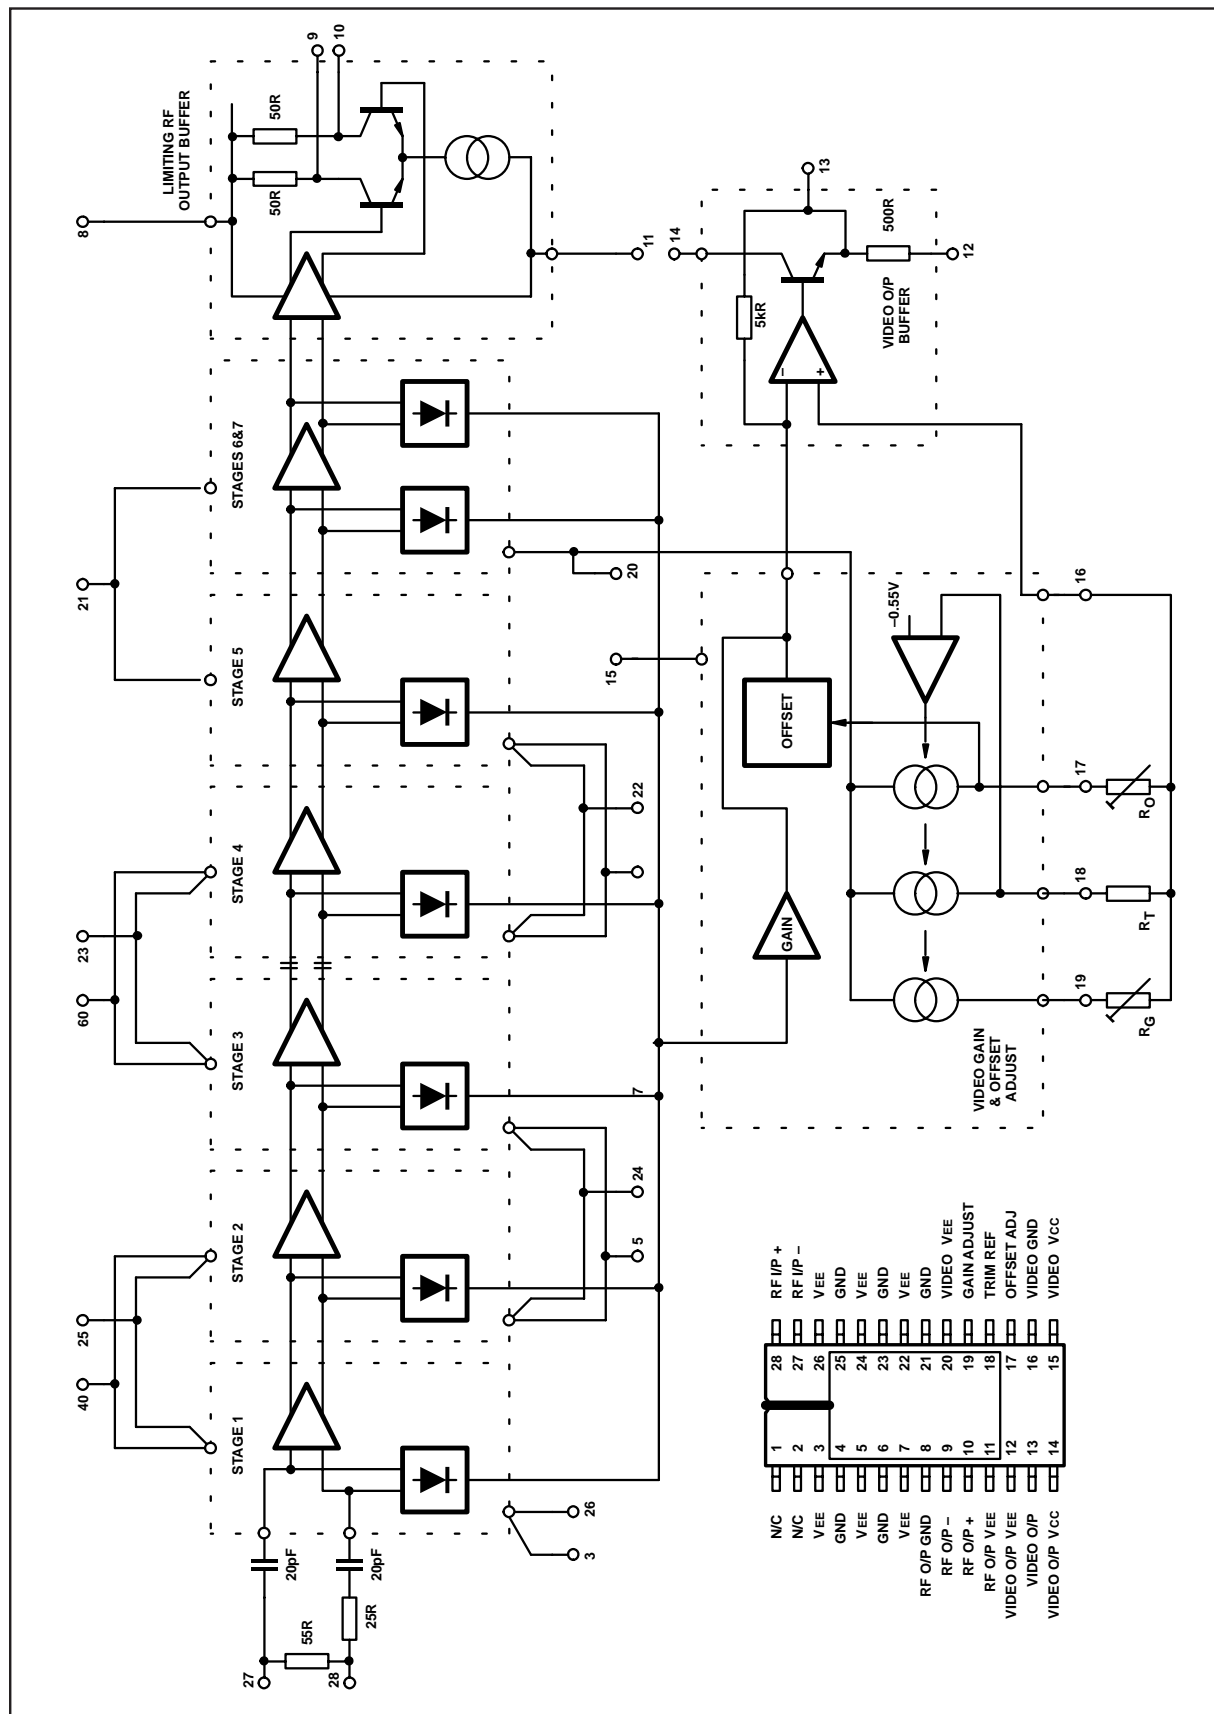

Fig.24 SL3522 Schematic diagram
- 2) There are 2 RF coupling capacitors (20pF) on-chip, which couple the output signal from stage 3 to the input of stage 4 (ref Fig. 24). These can introduce undesirable limiting phase performance for input signal frequencies below 100MHz.